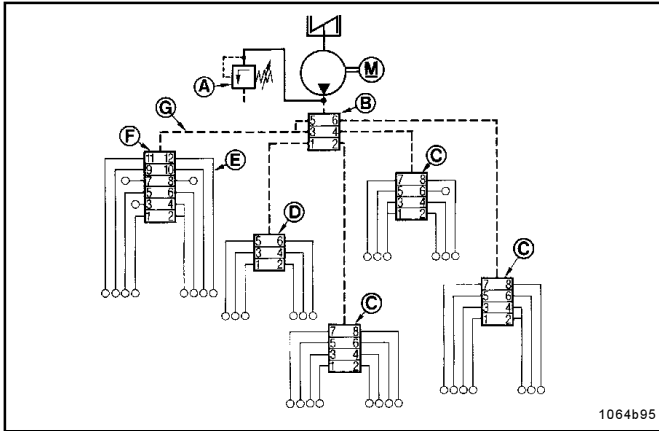

Fig. 15 - Example of a lubrication system
- The main metering device (B, Fig. 15) and the secondary metering devices are connected by a main line G. This feature automatically causes the linkage of the progressive system connected downstream of the pump.